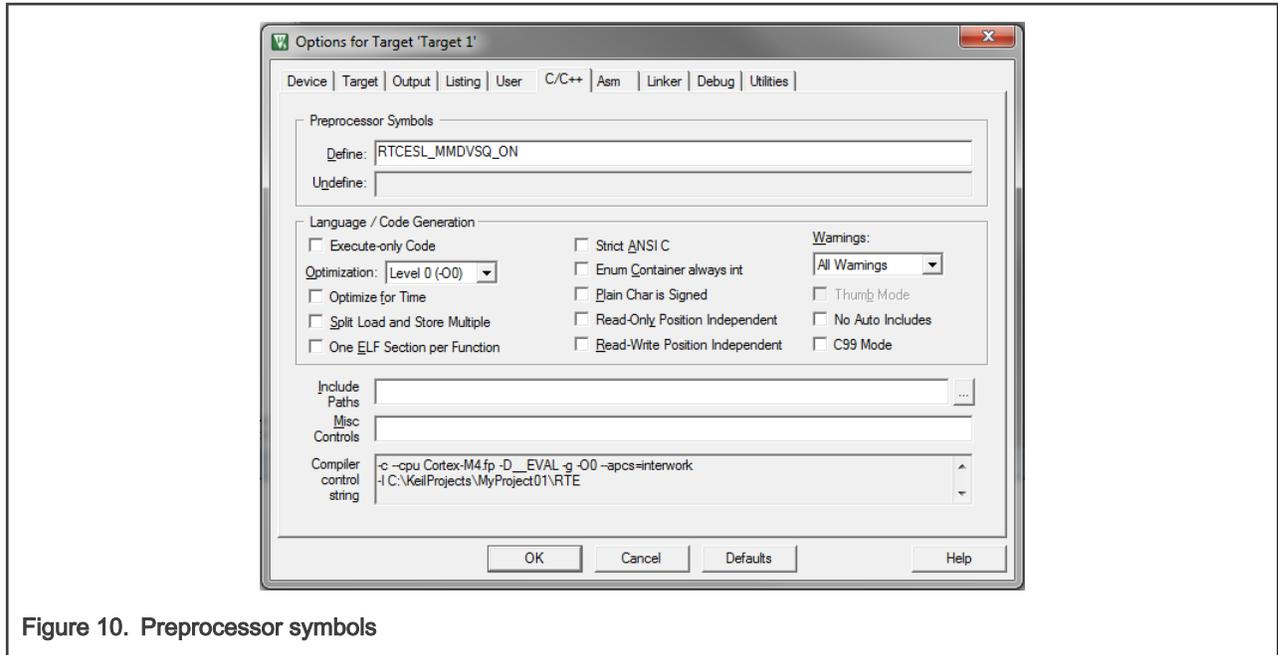

Figure 10. Preprocessor symbols
2. Select the C/C++ tab. See Figure 10.